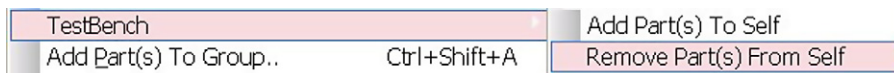

FIGURE 22.20
21. Draw a box around the **clock** hierarchical block, V1 and the 0V symbol and then **rmb > Remove Part(s) From Self** (Figure 22.20).